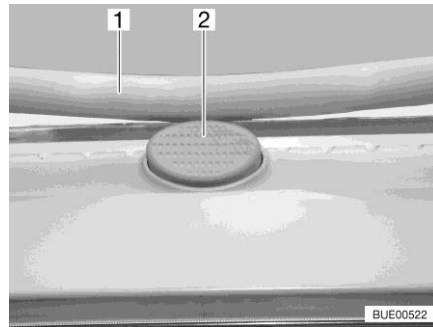

Fig. 108 Safety knob (Heki skylight)
- Press the safety knob (Fig. 108,2) and pull the bar (Fig. 108,1) down with both hands.
- Push the bar upwards with both hands until it is above the safety knob (Fig. 108,2).